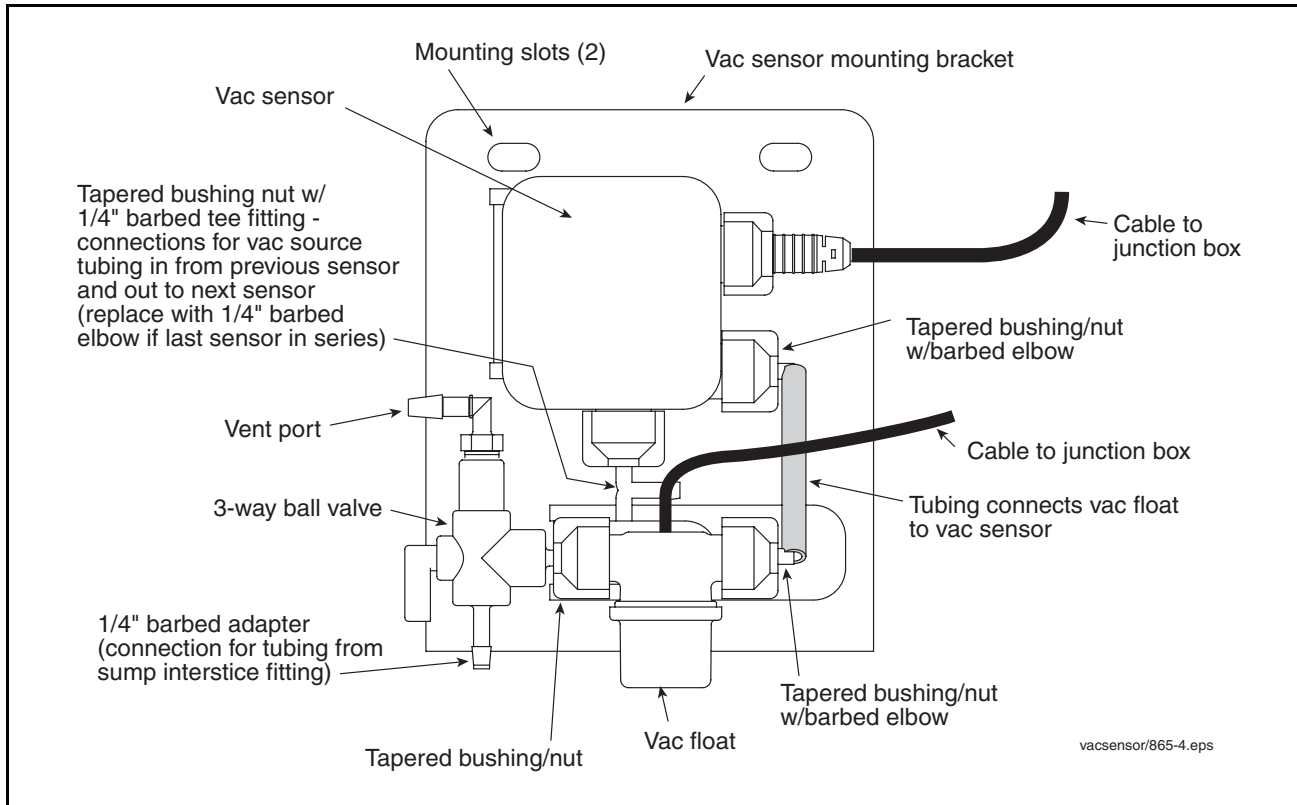

Figure 3. Vac Sensor description
3. The Vac Sensor assembly that is installed in each dispenser/vent sump to be monitored is described in Figure 3.